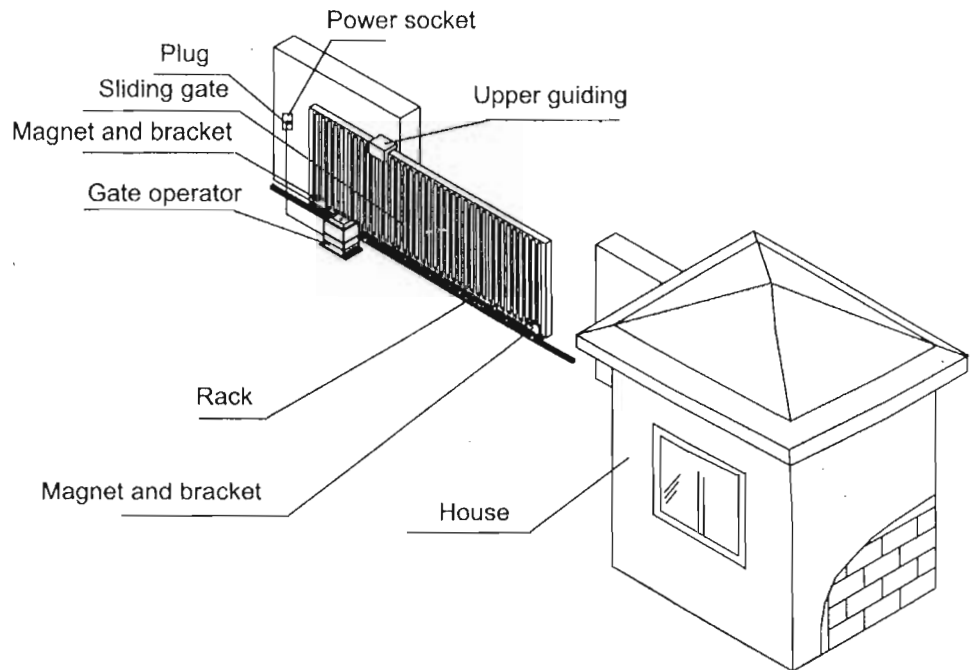

Fig.4
- The gate operator and the sliding gate should be installed according to Fig.4. It is recommended to install limit devices at both ends of the gate to prevent the gate from sliding out of the rails. The rails must be installed horizontally.